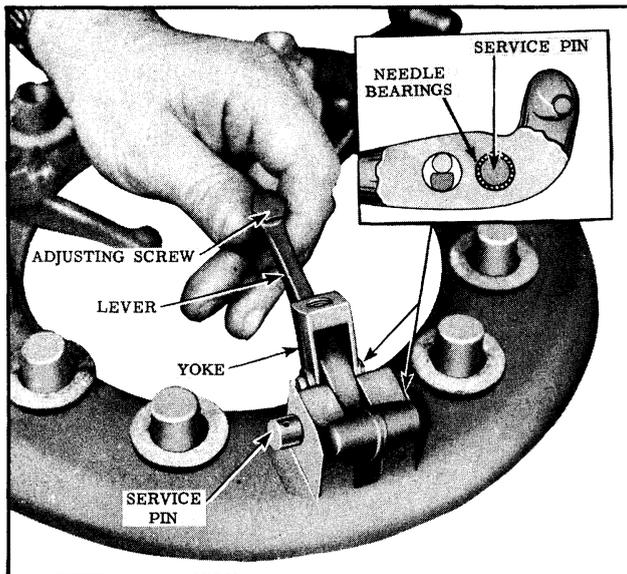

Fig. 10-6 Assembly of Lever to Plate
4. The cover can then be lifted off and all parts will be available for inspection. (See Fig. 10-5) Release levers can be removed from the pressure plate and yokes from the release levers by carefully hack-sawing the large upset ends off the pins holding these pieces together. A dummy pin the width of the lever should be used for removal of the old pins. In this way the needle bearings can be kept from falling from the lever during removal of the pin. (See Fig. 10-6)